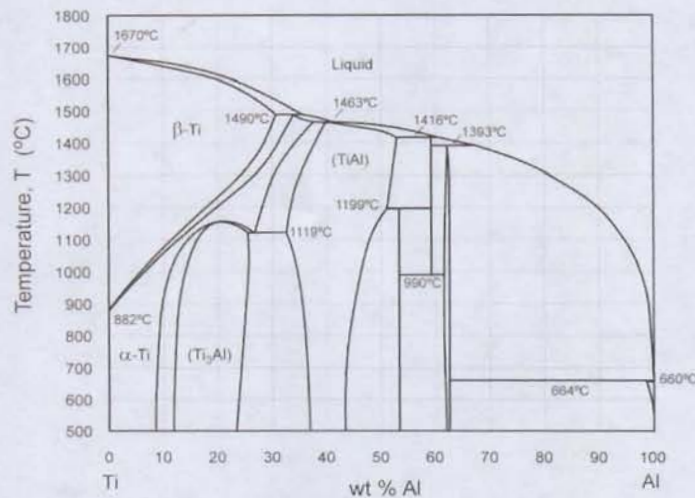

Figure 9: titanium-aluminium Ti-Al phase diagram
15. Figure 9 shows the Ti-Al phase diagram (important for the standard commercial alloy Ti-6% Al-4% V).